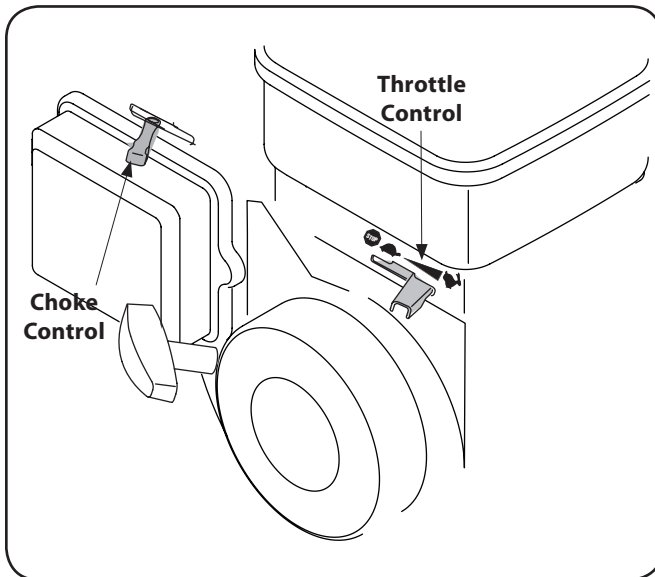

Figure 5-1
3. Move engine throttle control lever to FAST or START position. See Figure 5-1.